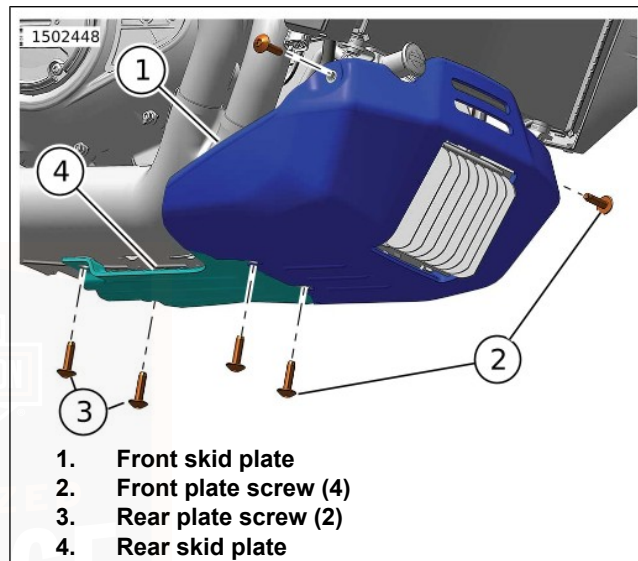

Figure 75. Two Piece Skid Plate
1. Figure 75 Remove screws (2)
2. Remove front skid plate (1).
1. Figure 75 Remove screws (3).
2. Remove rear skid plate (4).
2. Figure 75 Position rear skid plate (4).
3. Install screws (3). Hand tighten.
2. Figure 75 Position front skid plate (1).
3. Install screws (2). Tighten screws (2 & 3).